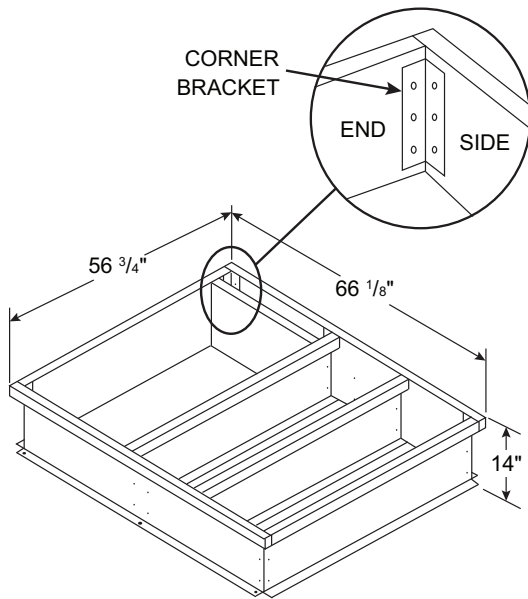
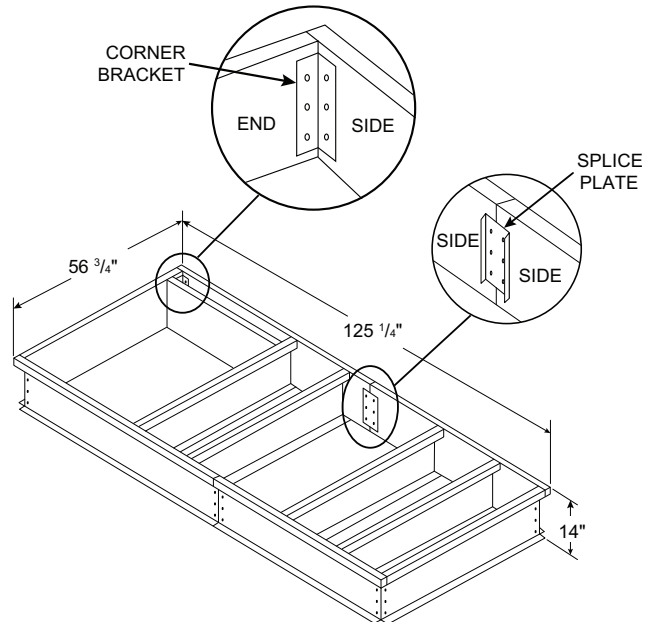

Fig. 1 — CRRFCURBXBAAA1 — Short Curb - No Equipment Support Example
Fig. 2 — CRRFCURBXC2BA1 — Long Curb (XL Cabinet) - No Equipment Support Example
- The first is the standard curb without a separate equipment support. These curbs are of varying sizes (see package usage) and have different types, sizes and quantities of internal supports. Figures 1 and 2 show 2 different examples of these curbs. Figure 1 has a 4 piece frame, 2 sides, and 2 ends. Figure 2 is a longer curb with 4 sides and 2 ends.
These curbs should be assembled with provided corner brackets and hardware as shown in Fig. 1 and 2. The longer curbs (Fig. 2) have a splice in the length of the curb sides. Install splice plate as shown in Fig. 2.